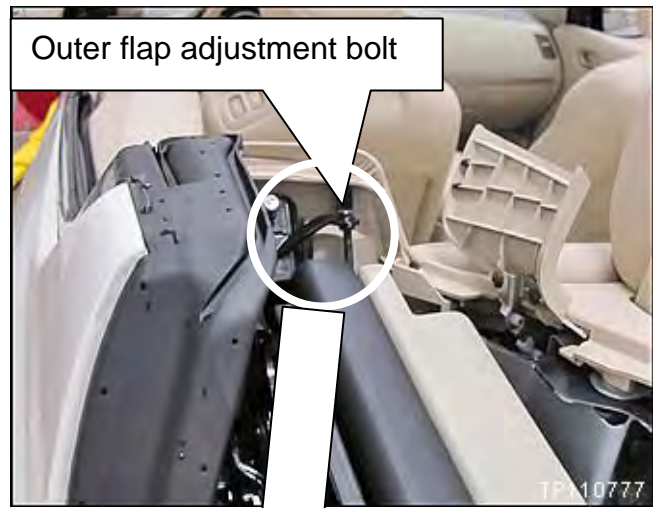

Figure 2
2. Locate the outer flap adjustment bolt (see Figures 2 and 3).